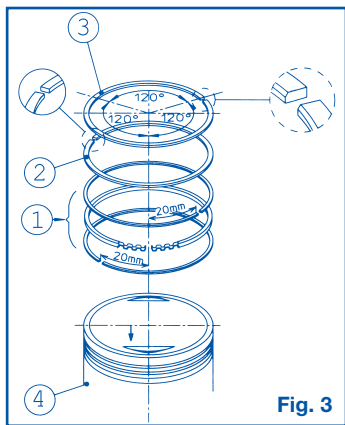

Fig. 3
- Fit the scraper ring expander in the special piston groove, then complete the scraper ring assembly by fitting first the lower and then the upper scraper ring (Fig. 3 - Part 1).
- Fit the second piston ring with the printing turned towards the piston upper part as indicated in Fig. 3 - Part. 2.
- Insert the first chromed compression piston ring with the printing turned towards the piston crown as indicated in Fig. 3 - Part. 3.
- Position the piston rings openings as shown in Fig. 3.
- Recheck that the piston rings openings are positioned as shown in Fig. 3.